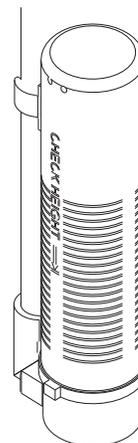

Figure 2 Residential Air Check Valve
9. Place approximately 1" (25 mm) of water above the grid plate. If a grid is not utilized, fill to the top of the air check (Figure 2) in the salt tank. Do not add salt to the brine tank at this time.